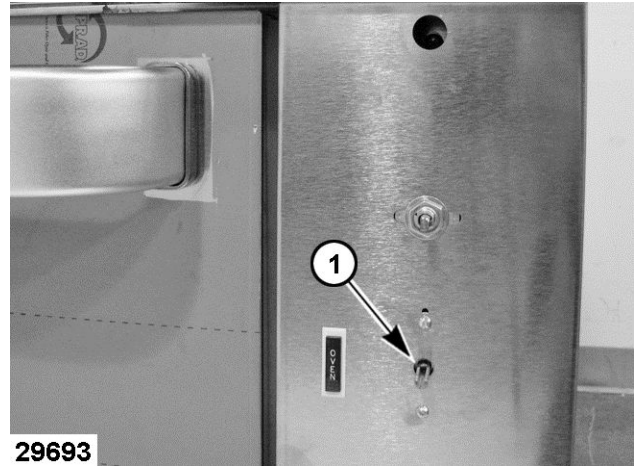

Fig. 2
- 2) Hold thermostat stem to prevent movement. Insert a flathead screwdriver into thermostat stem (1, Fig. 2) until it reaches the calibration screw.